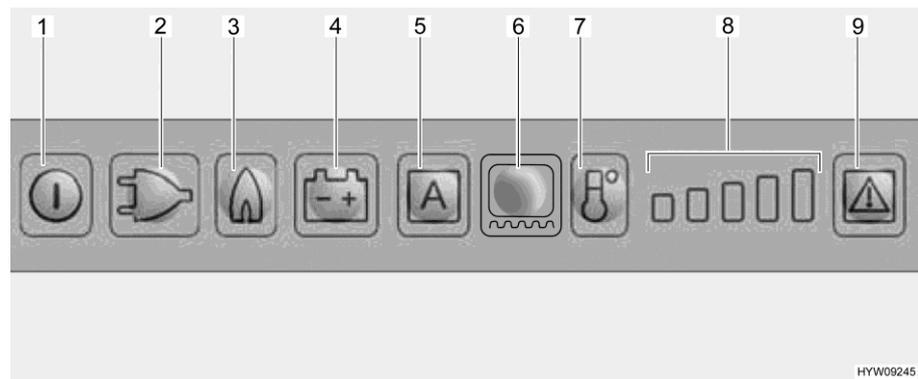

Fig. 248 LED operating panel (Dometic refrigerator)
When selecting gas operation the ignition fuse is opened automatically so gas can get into the burner. At the same time the electronic ignition is activated. If the gas flame is extinguished, e.g. by blast of wind, the ignition is activated immediately and re-ignites the gas. If there is a fault in gas operation, the illuminated buttons for Gas (Fig. 248,3) and Fault (Fig. 248,9) flash and an alarm sounds for 20 seconds.
- Press and hold the On/Off button (Fig. 248,1) for about 2 seconds. The refrigerator switches on and the previously set operating mode is displayed.
- Press the illuminated button for the desired operating mode (Fig. 248,2 - 4) or the automatic mode "AES" (Fig. 248,5) (only in the case of AES version).
- Use the cooling level button (Fig. 248,7) to set the refrigerating temperature. The cooling level indicator (Fig. 248,8) shows the selected thermostat setting.
- Press and hold the On/Off button (Fig. 248,1) for about 2 seconds.
When turned on the first time the refrigerator automatically selects the middle thermostat position. This position can be adjusted manually using the cooling level button (Fig. 248,7). It takes a few hours till the refrigerator reaches its normal operating temperature. When changing over to another operating mode, the thermostat setting is kept.
- Switch on the frame heater for a 2 hour period: Push the frame heater illuminated button (Fig. 248,6) once. One bar is lit on the cooling level indicator (Fig. 248,8).
- Switch on the frame heater for a 5 hour period: Push the frame heater illuminated button (Fig. 248,6) twice. Two bars are lit on the cooling level indicator (Fig. 248,8).
- Setting frame heater for continuous operation: Push the frame heater illuminated button (Fig. 248,6) three times. Three bars are lit on the cooling level indicator (Fig. 248,8).
The cooling level indicator (Fig. 248,8) shows the operating time of the frame heater for several seconds.
In the event of a fault, the illuminated Fault button (Fig. 248,9) will flash. Also, either one of the illuminated buttons for operating mode or the cooling level indicator will flash. In addition, a warning signal will sound. For instructions on the display of errors and troubleshooting, see chapter 15.
- ▷ After eliminating a fault of the gas operation, press the illuminated Reset button (Fig. 248,9).